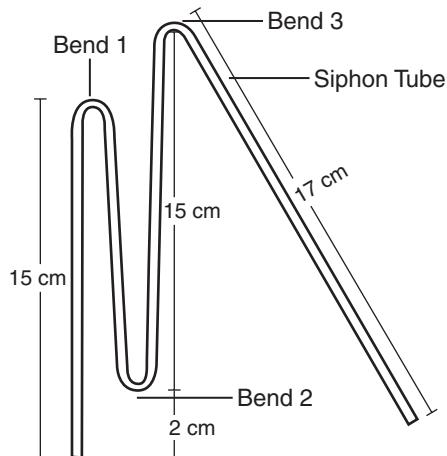

Figure 1. Self-starting Siphon Tube.
2. Carefully heat and bend the glass tubing to form the shape shown in Figure 1. Heat the glass tube evenly so that it does not crack. Bend the glass tube slowly and evenly to prevent the formation of a crease which may close off the inside of the tube. Bend only one section at a time. Allow the glass to cool completely before bending another section.